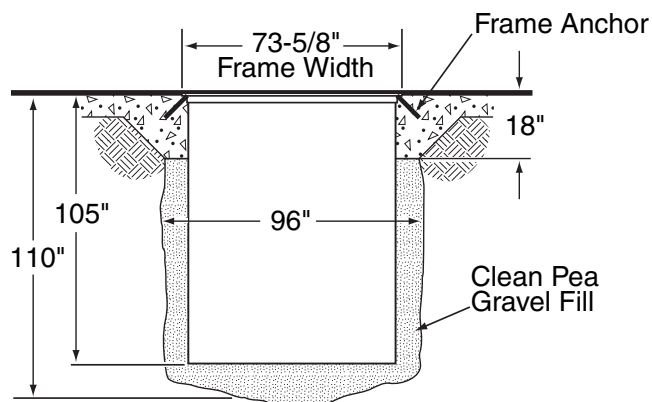

Fig. 2
**2. Excavation:** Excavate hole to dimensions shown in Fig. 2. Dig trench for 2" PVC pipe between lift and power unit location. Trench should be dug 11" below finished floor grade. Air line and hydraulic hose to be contained in this 2" PVC pipe.
**B.** Bend frame anchors out perpendicular to concrete frame and downward approximately 45° to floor level, Fig. 2.
- A. Wall Mounting:** For operating convenience, locate Power Unit bracket so top of bracket will be approximately 56" above floor, Fig. 2.